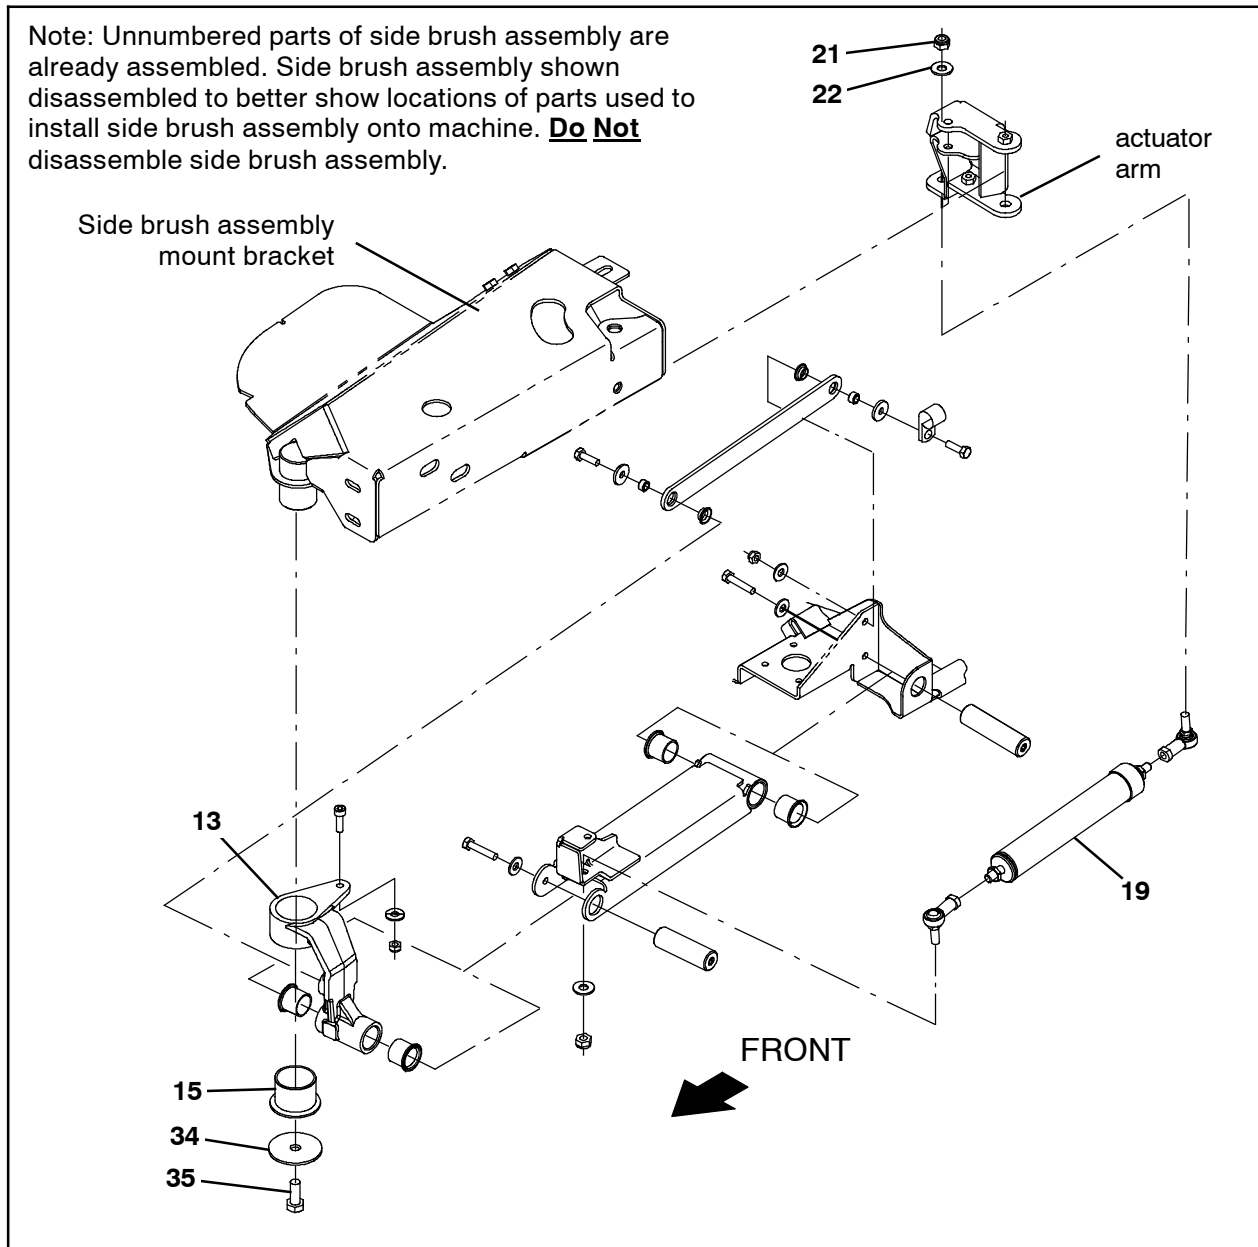

FIG. 4
9. Use one M12 hex screw (35), one flat washer (34), and a flange bushing (15) to install the side brush assembly pivot arm (13) to the side brush assembly mount bracket. (Fig. 4)
10. Use one M10 hex nut (21) and one flat washer (22) to install the spring assembly (19) onto the actuator arm installed in the side brush assembly mount bracket. (Fig. 4)